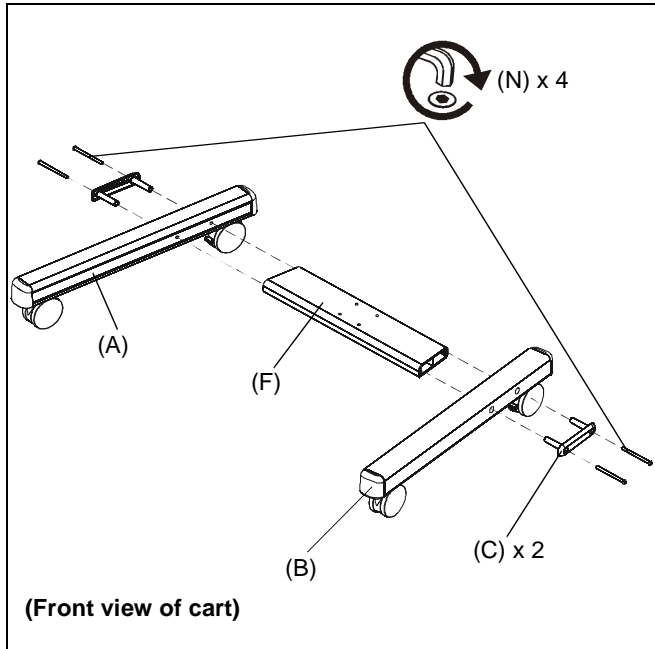

Figure 1
1. Assemble two legs (A) and (B) to the cart cross bracket (F) using two 5/16-18x4-1/4" button head cap screws (N) per leg. (See Figure 1)